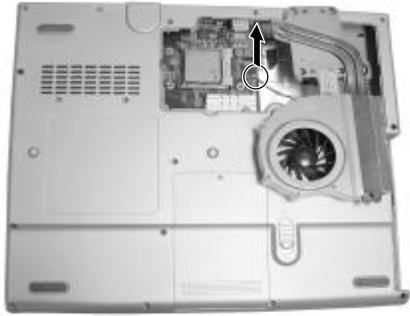

Figure 2-8 Disconnect the fan's cord
5. Disconnect the fan's power cord to detach the heatsink from the CPU compartment. (Figure 2-8)